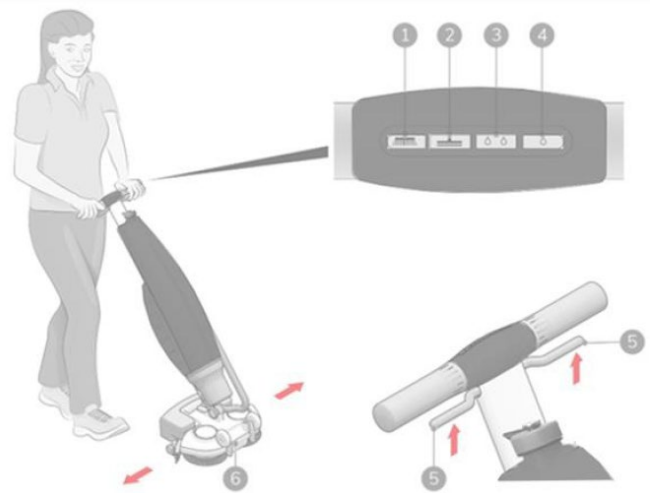

Fig. 8
4. Stand behind the i-mop@Lite. Choose your cleaning mode via the buttons on the control panel (Fig.8, pos 1 to 4). You can select the options independently or combined.
6. Squeeze the trigger on the handle (Fig.8, pos 5). This will also start the i-mop@ Lite
9. Steer by gently turning the handle left or right to move the scrub deck (Fig. 8, pos 6).
11. Releasing the trigger (Fig.8, pos 5) will immediately stop the i-mop@Lite. The vacuum motor will stop after 3 seconds.